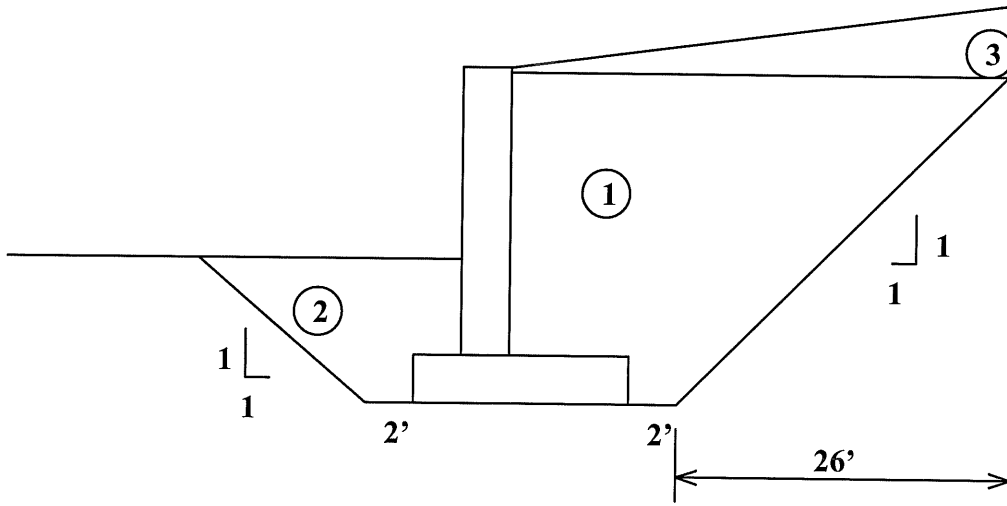

Figure 3-3
3.2.3 Excavation and Backfill (See Figure 3-3)